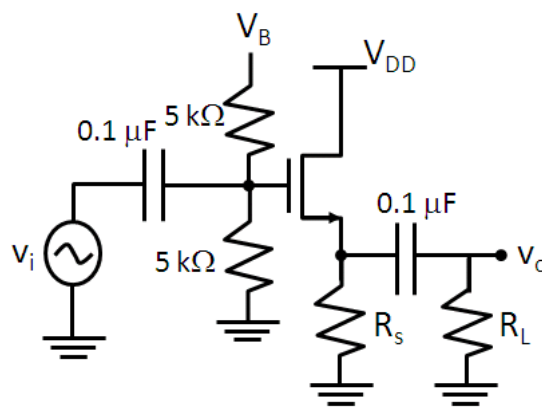

Fig. 3: Use different load resistors to test a CD amplifier.
1. Design the common-drain amplifier with the transistor of nodes 6-7-8 to achieve a small-signal gain larger than 0.8 by selecting R_S , where R_S is connected to the source of the transistor directly (please refer to Fig. 3, but do not connect R_L and $0.1 \mu\text{F}$ for now). Set $V_{DD}= 5.0 \text{ V}$ and $V_G= 3.0 \text{ V}$. Please explain your design process.
2. Add an additional resistor R_L and a coupling capacitor $0.1 \mu\text{F}$ as shown in Fig. 3 for the CD amplifier design. Use R_L values of $1 \text{ K}\Omega$ and $10 \text{ K}\Omega$, respectively, and measure the mid-band small-signal gain. This test is to investigate the effect of the load resistor on a CD amplifier. Compare the results under the two different loads. Also, compare the measured results with hand calculation. Comment on what you observe.